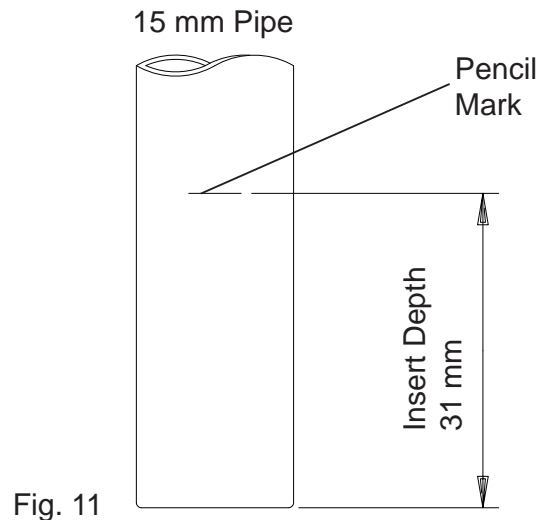

Fig. 11
Ensure the pipe is free from all score marks and deformities in the area of the insertion depth (Fig. 11) and cut the pipe square, removing all burrs and sharp edges to prevent damage to the sealing 'O'-ring.
2. Prior to inserting pipe into fitting, mark the insert depth on the wall of the pipe with a soft pencil at a distance of 31 mm from the end to be inserted (Fig. 11).